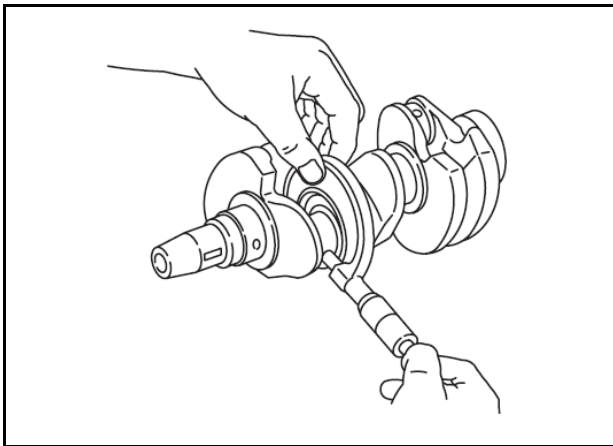

Fig.1-Checking Journals
1. Check the main bearing and crankpin journals for wear and taper, Fig. 1.